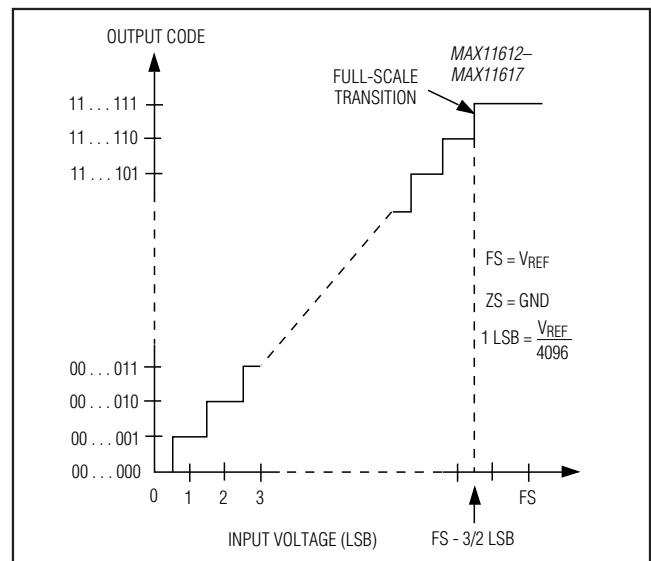

Figure 12. Unipolar Transfer Function
Output data coding for the MAX11612-MAX11617 is binary in unipolar mode and two's complement in bipolar mode with $1 \text{ LSB} = (V_{REF}/2N)$ where N is the number of bits (12). Code transitions occur halfway between successive-integer LSB values. Figures 12 and 13 show the input/output (I/O) transfer functions for unipolar and bipolar operations, respectively.